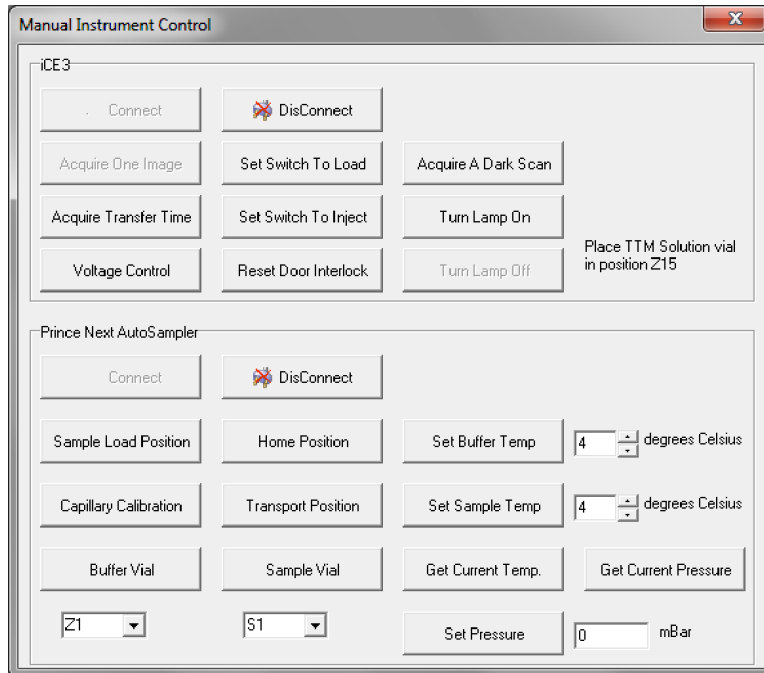

Figure 10-15: Alcott 720NV autosampler manual control.
4. The Manual Instrument Control screen will display (Figure 10-15):